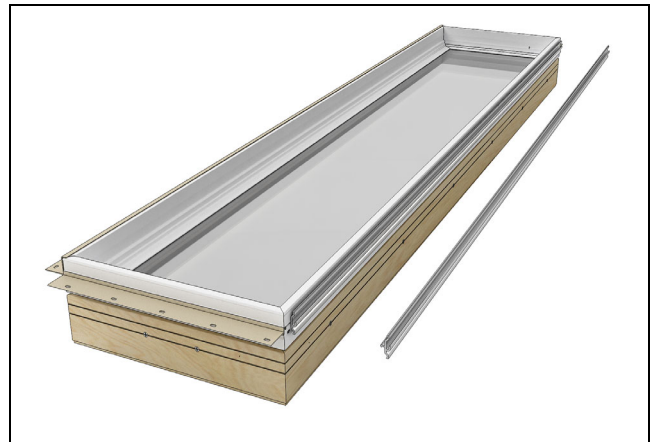

Figure 24
5. Insert one aluminum mulling pin into the kerf of the sill of the upper unit(s). Ensure Mulling pin is roughly $\frac{3}{4}$ " from either edge of the unit(s). See Figure 24.